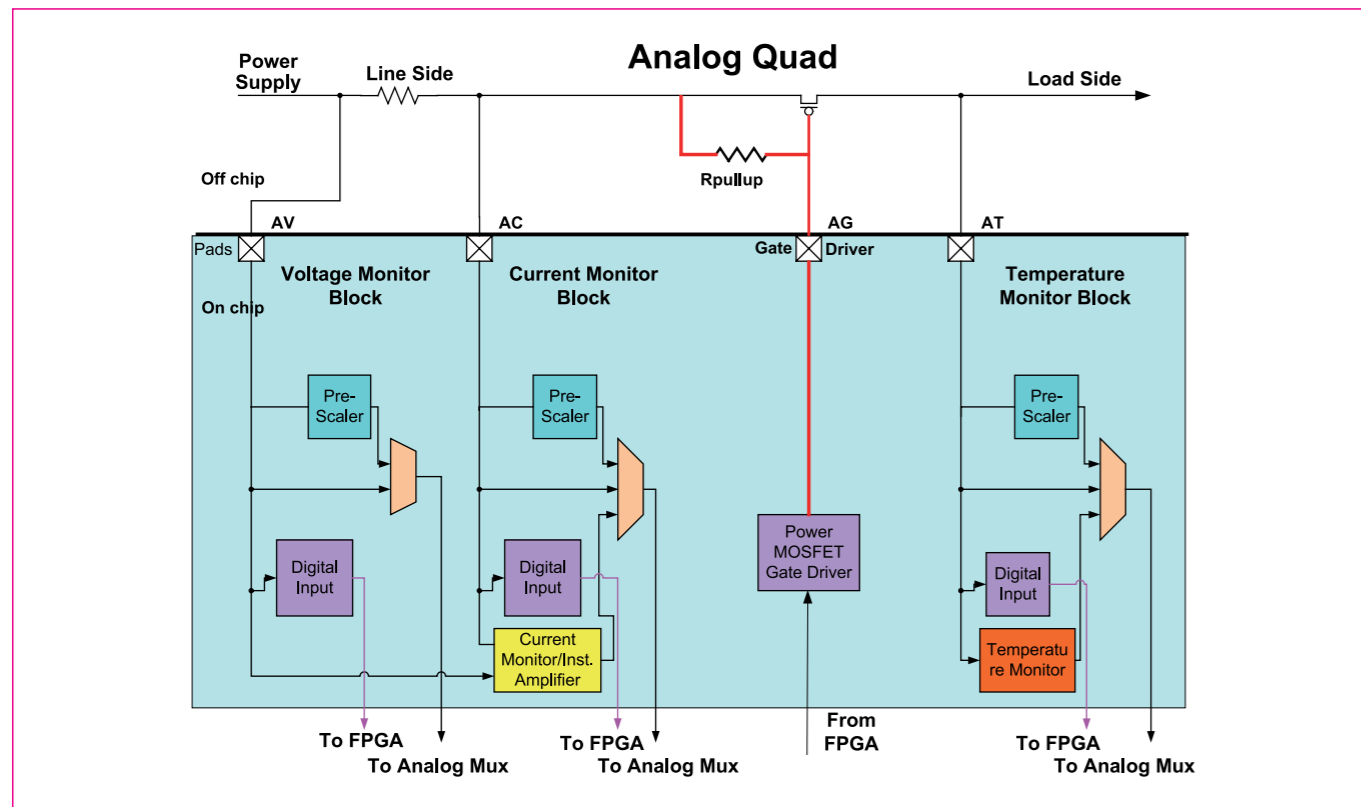

Figure 1. Analog Quad I/O structure.
of a mixed-signal FPGA, such as the Actel Fusion Programmable System Chip, to control supply voltage ramp rate, an analog quad analog I/O structure (Figure 1) is critical. The analog quad is comprised of four I/O pads including analog voltage (AV) input, analog voltage and/or current (AC) input, analog voltage and/or temperature (AT) input, and a single gate driver output, analog gate (AG) pad. AV, AC, and AT are used to precondition analog signals before sending to a configurable 12-bit successive approximation register (SAR) analog to digital converter (ADC) for conversion. The analog quad inputs are tolerant up to $12\text{ V} \pm 10\%$. The analog quad offers a wide range of configurability in terms of prescaler values, positive or negative voltage support, and I/O functionality.
Figure 1 illustrates a typical power control configuration. The AV and AC pads represent the line side or power supply and AT pad is on the load side with an external MOSFET (controlled by the AG pad) gating or controlling the power to the load. The AV pad monitors the supply